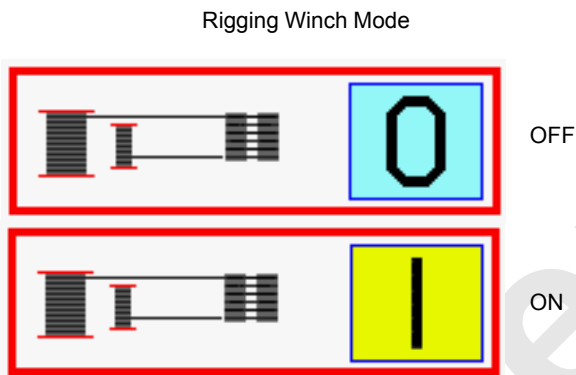

FIGURE 4-40
See Figures 4-40 and 4-41 in following procedure.
2. In level 2, use the select buttons to enter the selected drum screen options. Select the rigging winch data box (Figure 4-40).
2. In level 2, use the select buttons to enter the selected drum options screen. Select the rigging winch data box (Figure 4-40).